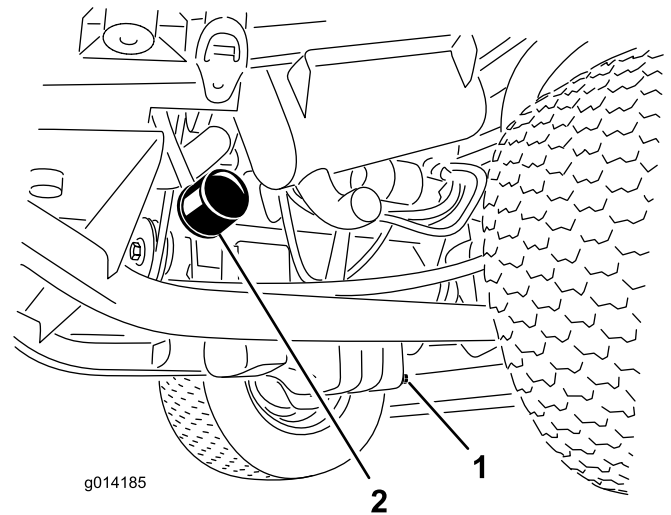

Figure 45
1. Remove the drain plug (Figure 45) and let the oil flow into a drain pan.
3. Remove the oil filter (Figure 45).